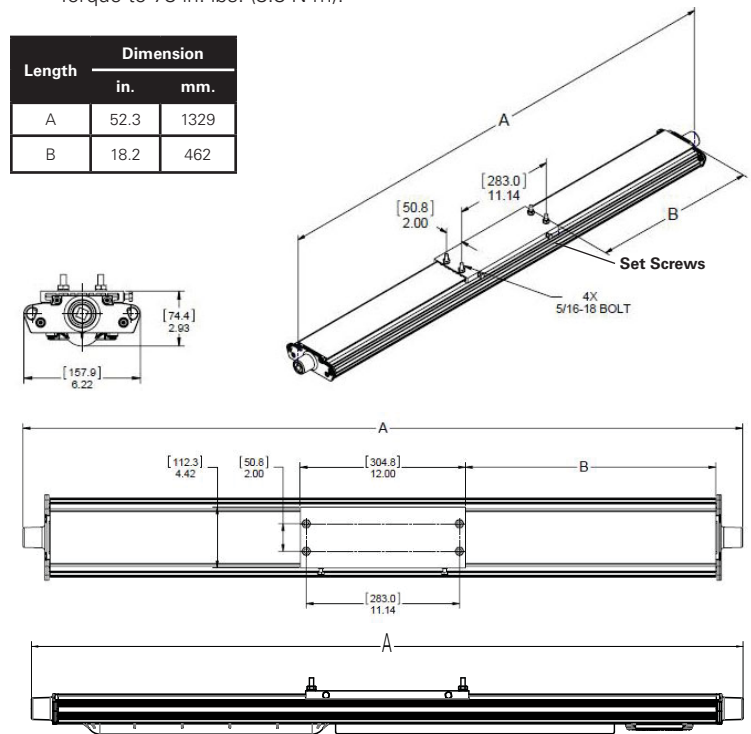

Figure 3. DP1057MTK Back Mount Installation
2. For back mount, use the bracket as a template, mark and drill holes into the mounting surface and use supplied 5/16" bolts (see Figure 3).
3. Fixture is now ready for mounting. It is strongly suggested to use two (2) qualified tradespeople to proceed with the final mounting of the fixture. This is recommended to avoid any personal injury or damage to the fixture.
5. Tighten the two (2) 1/4" set screws on the slide bracket until they bottom. Torque to 78 in.-lbs. (8.8 N-m).